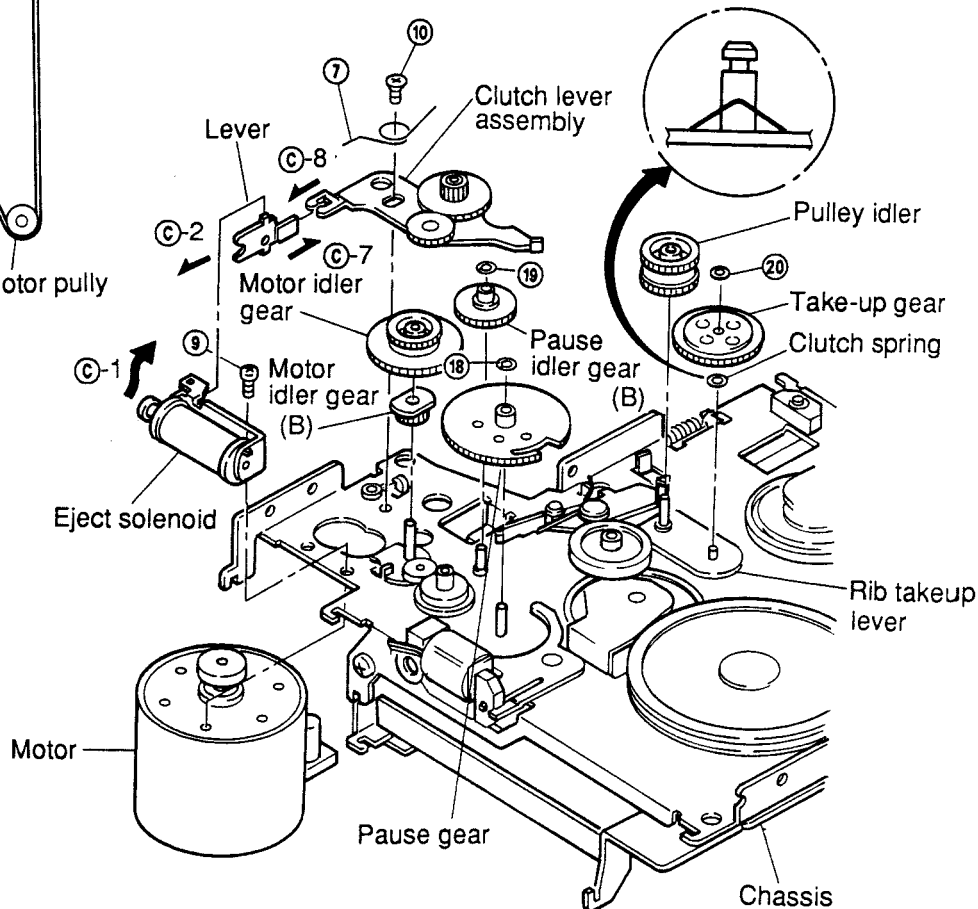
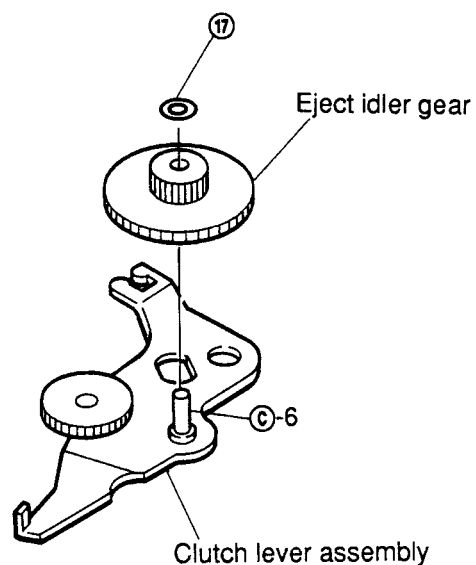

Figure 10
Figure 15
- (1) After removing the belt, remove spring ⑦ as shown in Figure 10.
- (3) Remove two screws ⑨ and ⑩, and remove the motor, taking care not to damage the motor idler gear. (Refer to Figure 10.)
- (4) Mount the new motor following the removal steps in the reverse order.
- (2) Remove screw ⑨ and remove the play solenoid as shown in Figure 10.
- (3) Align position ⑥-1 of the new solenoid with position ⑥-2 of the lever and fasten the screws as shown in Figure 10.
- (4) Lead the wire through the tube and solder it.
- (1) After removing the motor, remove the motor idler gear and the motor idler gear (B) and remove the clutch lever assembly as shown in Figure 10.
- (2) Remove M1.2 lock washer ⑰ and remove the eject idler gear as shown in Figure 15.
- (3) Mount the new gears and clutch lever following the removal steps in the reverse order.
Note: When mounting the gears to the lever, apply grease (FLOIL 425A) to the position ㉔-6 as shown in Figure 15. Align the position ㉔-7 with the position ㉔-8 and mount the clutch lever as shown in Figure 10.
- (1) Remove M1.2 lock washer ⑱ and remove the pause gear pulling it up from the stud of the chassis as shown in Figure 10.
- (2) Mount the new gear following the removal steps in the reverse order.
- (1) After removing the motor and the motor idler gear, remove M1.2 lock washer ⑲ and remove the gear by pulling it up from the stud of the chassis as shown in Figure 10.
- (2) Mount the new gear by following the removal steps in the reverse order.
- (1) After removing the belt and the pulley idler gear, remove M1.2 lock washer ⑳ by pulling it up from the stud of the rib take-up lever assembly as shown in Figure 10.
- (2) Remount the take-up gear following the removal steps in the reverse order.